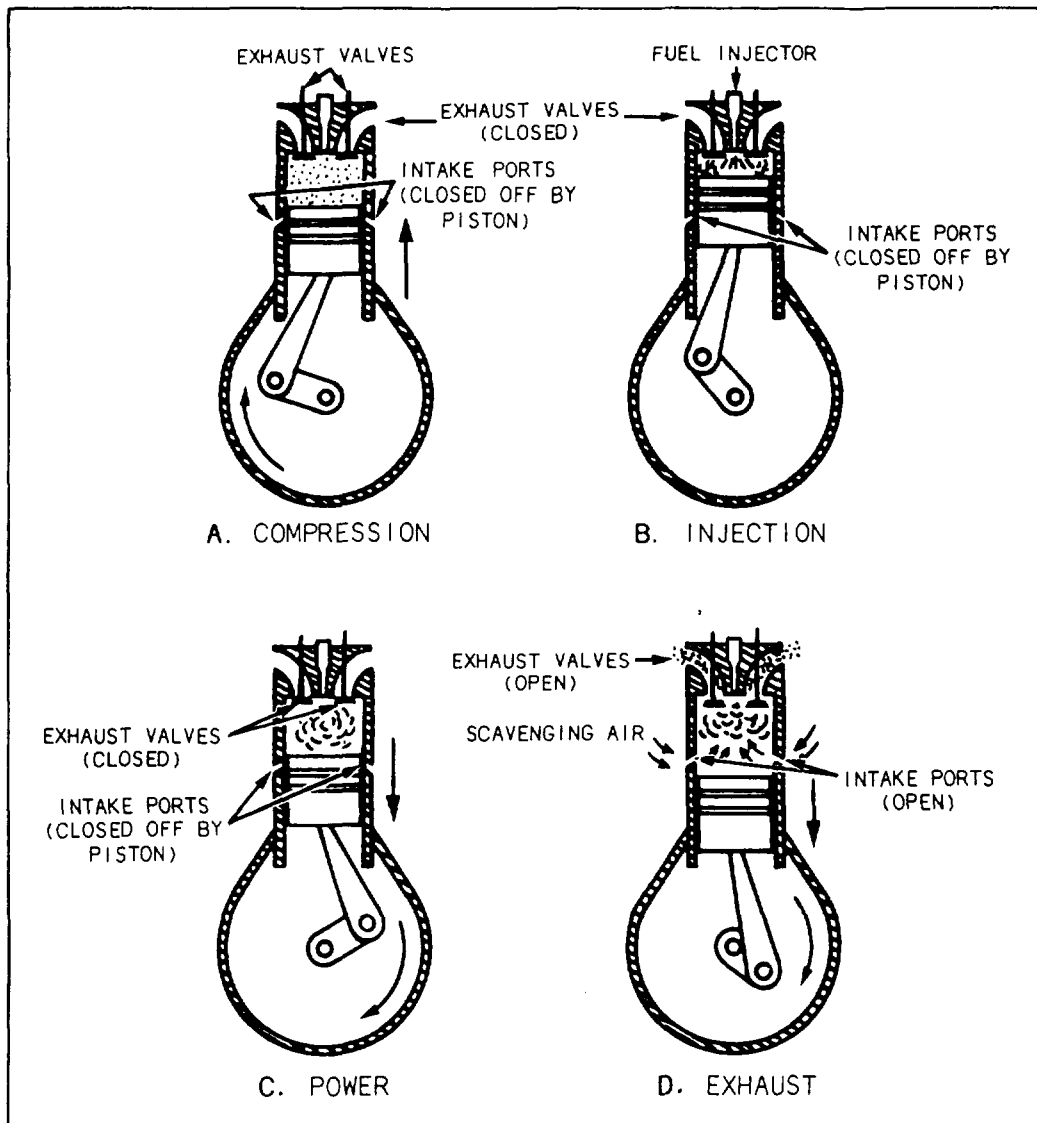

Figure 7-5.—Two-stroke diesel engine.
**NOTE:** A two-stroke engine does not have intake valves. It has intake ports (fig. 7-5).
The steps in the operation of a two-stroke diesel engine are shown in figure 7-5. In view A, the piston is moving upward on the compression stroke. The exhaust valve and the intake ports are closed, and the piston is compressing the air trapped in the combustion chamber. At the top of the stroke, with the piston in the position shown in view B, fuel is injected (sprayed) into the cylinder and ignited by the hot compressed air.
Since the two-stroke cycle engine does not go through an intake stroke, a means must be provided to force air into the cylinders. The air enters through intake ports (uncovered when the piston approaches the bottom of the power stroke). (See fig. 7-5.) Since the exhaust valves are open when the intake ports are being uncovered, the incoming air forces the burned gases out through the exhaust valves and fills the cylinder with a supply of fresh air.